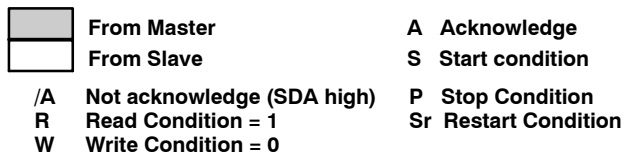

Figure 13. I2C Read Cycle
The transmitting device must not drive the SDA signal during the acknowledge cycle so that the receiving device may drive the SDA signal low. The master indicates a not acknowledge condition (NACK) by keeping the SDA signal high just before it asserts the stop condition (P). This sequence terminates a read cycle (see Figure 13).